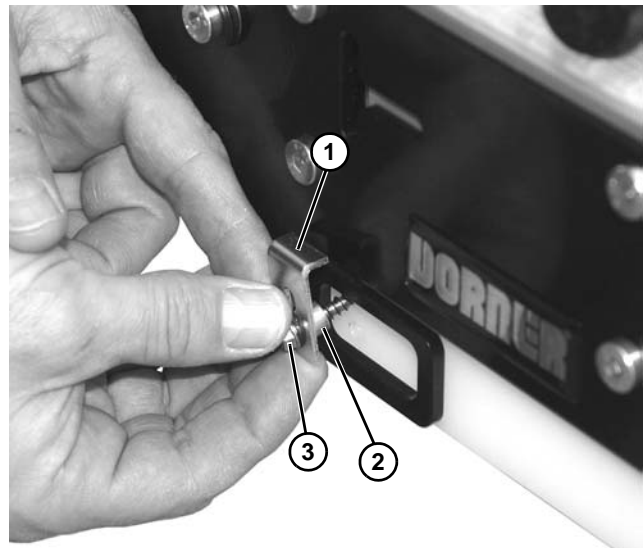

Figure 49
6. Install sag guard plate (**Figure 49, item 1**) with spacer (**Figure 49, item 2**) and screw (**Figure 49, item 3**).
7. Adjust wear strip up or down as needed on slotted holes in sag guard plate (**Figure 49, item 1**) and retaining clip (**Figure 48, item 4**), and secure with screws (**Figure 49, item 3**).